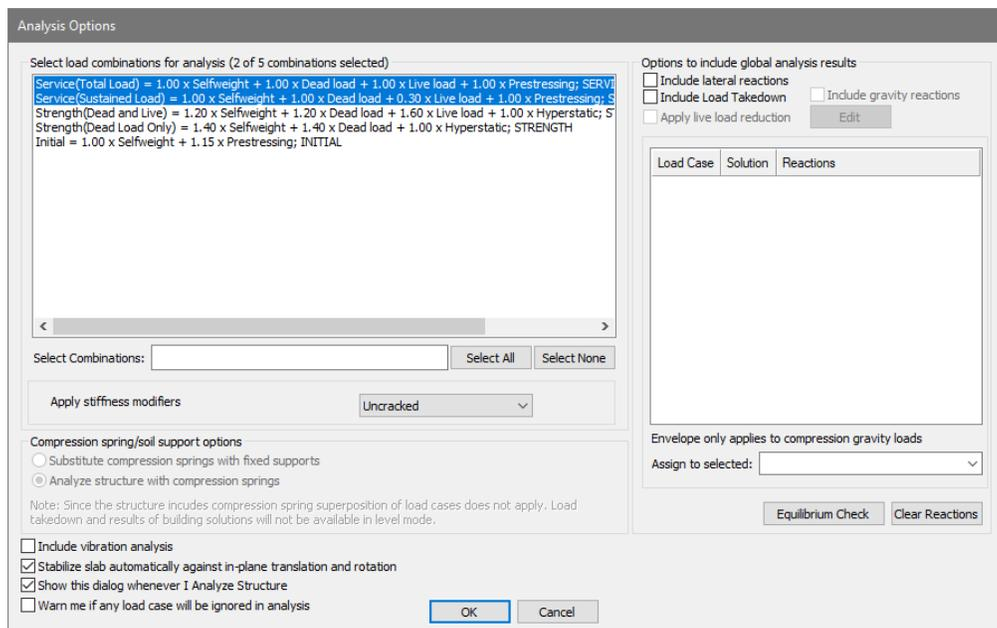

Figure 8-41
- Left-click** the top combination *Service (Total Load)* and while holding the left-mouse button drag your mouse to the *Service (Sustained Load)* load combination. This should drag highlight these 2 load combinations as shown in **FIGURE 8-41**.